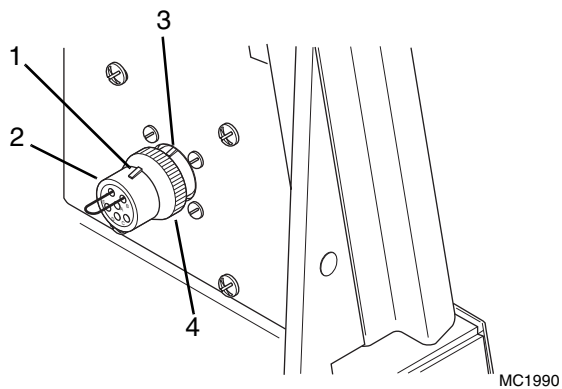

Figure 4-36 Jumper Harness
- b. Line up the tab (Fig. 4-36, 1) on the jumper harness end (2) with the tab (3) on fuse block harness end. Rotate the locking collar (4) until you are able to slide the two pieces together. Rotate the locking collar (4) clockwise to lock in place.